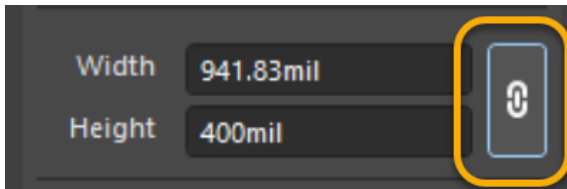

Figure 3. Image Size with active X:Y Ratio option
- c) The **X:Y Ratio 1:1** option is enabled (Figure 3). Try resizing the image on the schematic by dragging one of the highlighted vertices.